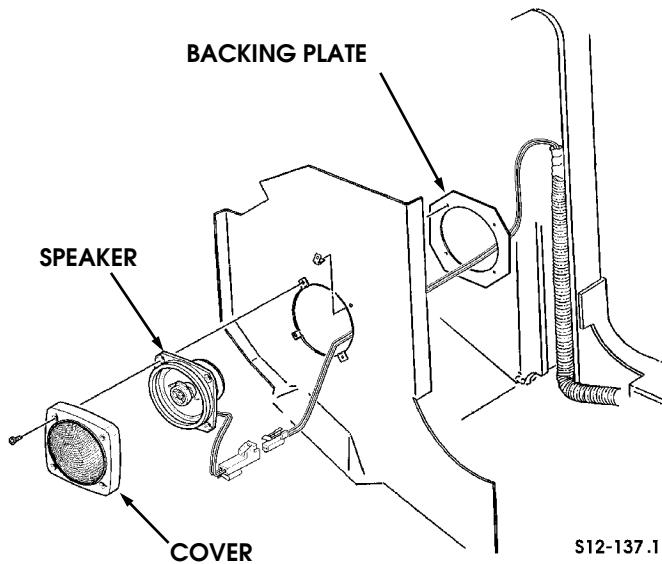

Figure 12-114.10: Right Front Speaker Model 90.
3. Remove four screws, clips, cover, backing plate and right front speaker from trim (Figure 12-114.10).
7. Connect two leads to right front speaker (Figure 12-114.10).